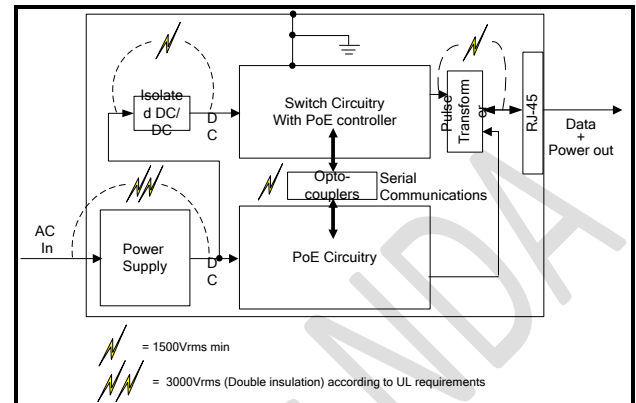

Figure 9: Switch Circuitry with a Single DC Source
- ◆ A single DC input (separate power supplies) for both the switch and PoE circuit as well as additional or integrated isolated DC/DC circuitry for the switch input and isolated serial communication port between the PoE circuitry and the switch's circuitry (see Figure 9).